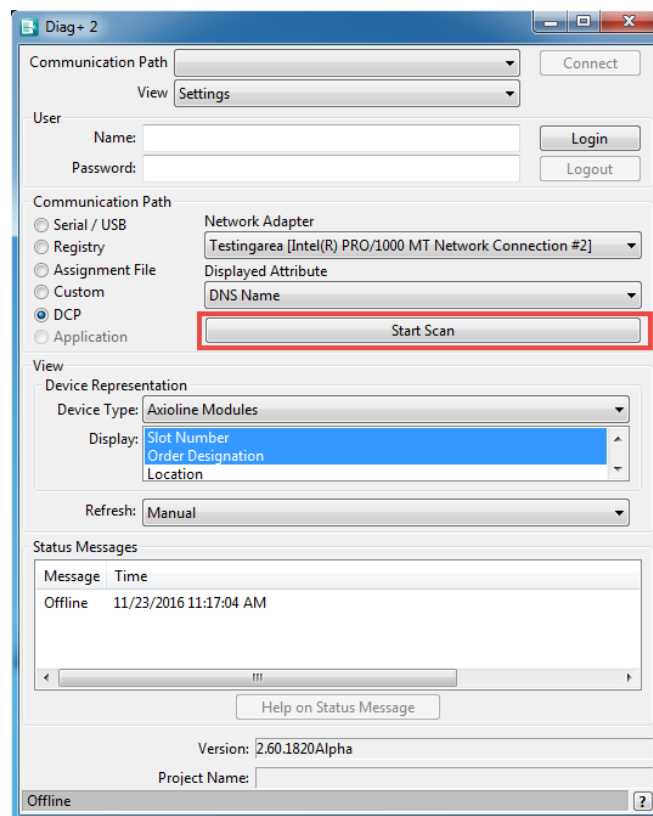

Figure 7-1 Communication path in Diag+ 2: Start Scan
- Make sure that "Axiline Modules" is set as the device type in the "Device Representation" field (see Figure 7-1).